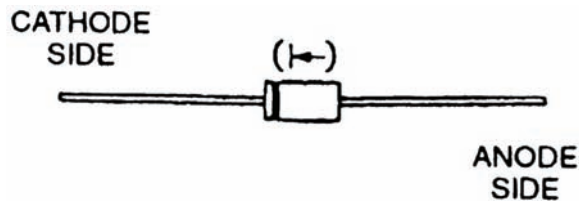

Figure 2-19. Diode Identification.
- j. Connect positive lead of multimeter to cathode side and negative lead to anode side of each diode (CR1, CR2, CR3, and CR4). Refer to Figure 2-19. Note ohms indication on multimeter for each diode.